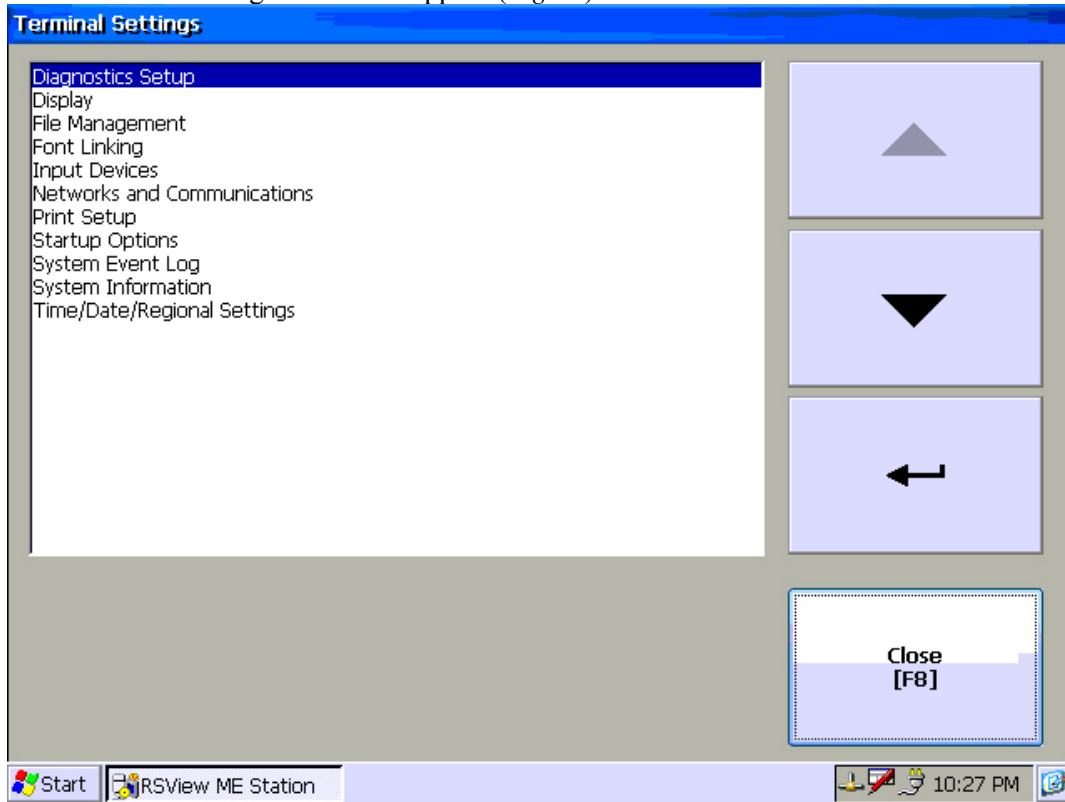

Fig 23
17. The Terminal Settings Menu will appear (*Fig 23*).
27. The Terminal Settings Menu (*Fig 23*) will appear.
53. The Terminal Settings Menu will appear (*Fig 23*).